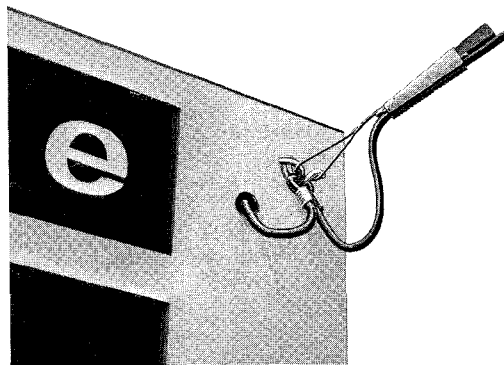
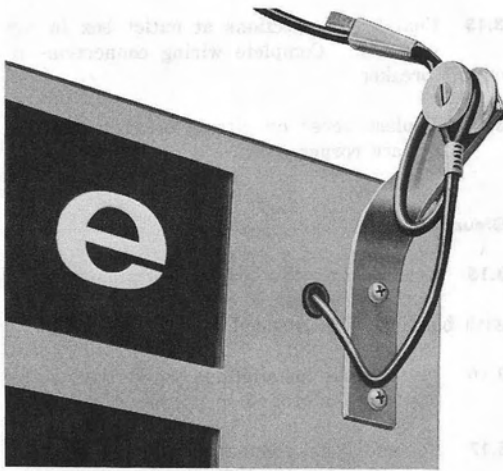

Fig. 16—Drop Wire Hook for First Attachment
Fig. 17—Corner Bracket for First Attachment
**3.06** Attach drop wire hook (Fig. 16) or corner bracket (Fig. 17) (whichever is required) on right rear column adjacent to the entrance hole as follows:
(1) Secure drop wire hook (Fig. 16) to clinch nut (provided with booth) using one 1/4-20 by 3/4 FHM screw, one 1/4-inch flatwasher, and one 1/4-inch lockwasher.
- (1) Secure the corner bracket (Fig. 17) to the threaded clinch nut using one 1/4-20 by 3/4 Phillips RHM screw.
- (2) Using the bracket as a template, drill a clearance hole for another 1/4-inch screw.
- (3) Further secure the bracket to the booth using one 1/4-20 by 3/4 Phillips RHM screw, one 1/4-inch flatwasher, one 1/4-inch lockwasher, and one 1/4-inch hex nut.